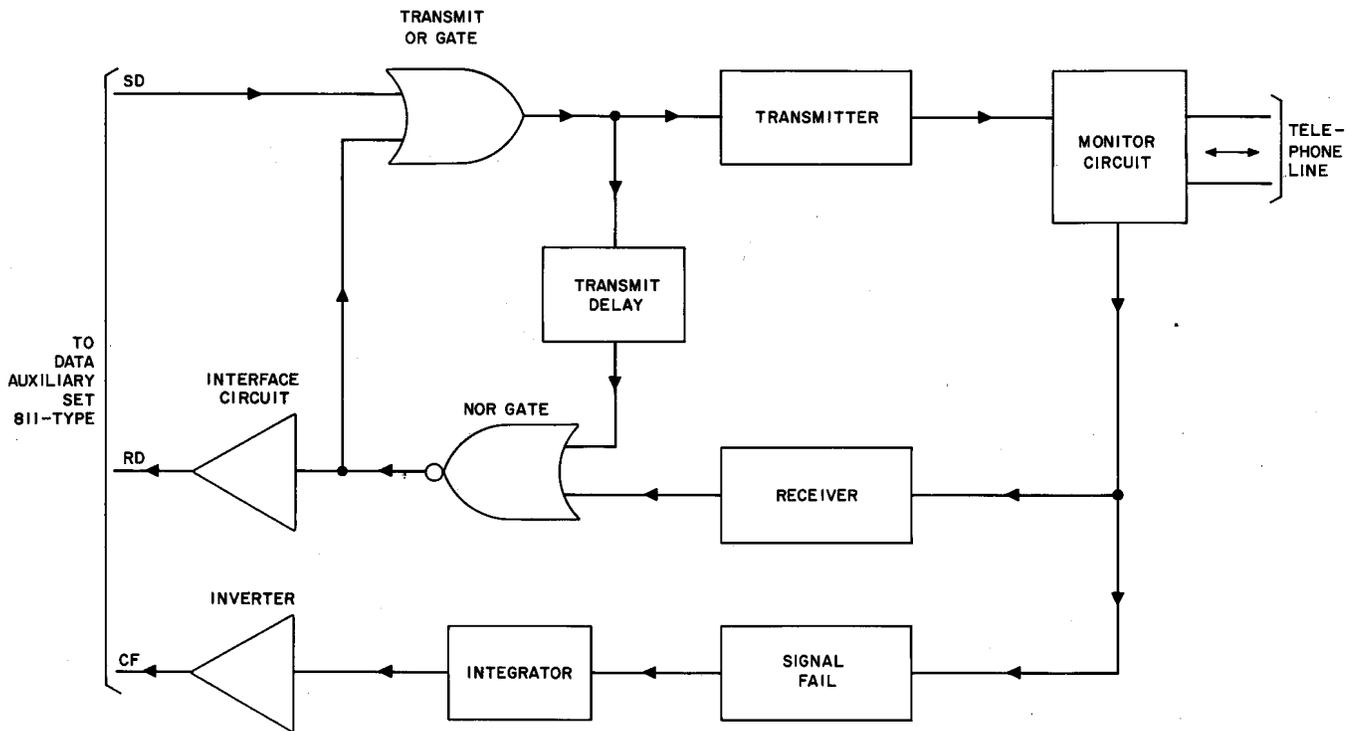

Fig. 6—Data Set 109B Functional Block Diagram
3.03 The Data Set 109B transmitter accepts dc voltages from the Data Auxiliary Set 811C and converts them to mark and space currents for transmission to the Data Set 109 type. Fig. 6 gives a functional block diagram of Data Set 109B.
3.09 The receive circuits (Fig. 6) include common circuits in the monitor, the receiver, the NOR gate, and the interface inverter.
3.13 The signal fail circuits (Fig. 6) include a bi-directional bridge, an integrator, and an inverter.